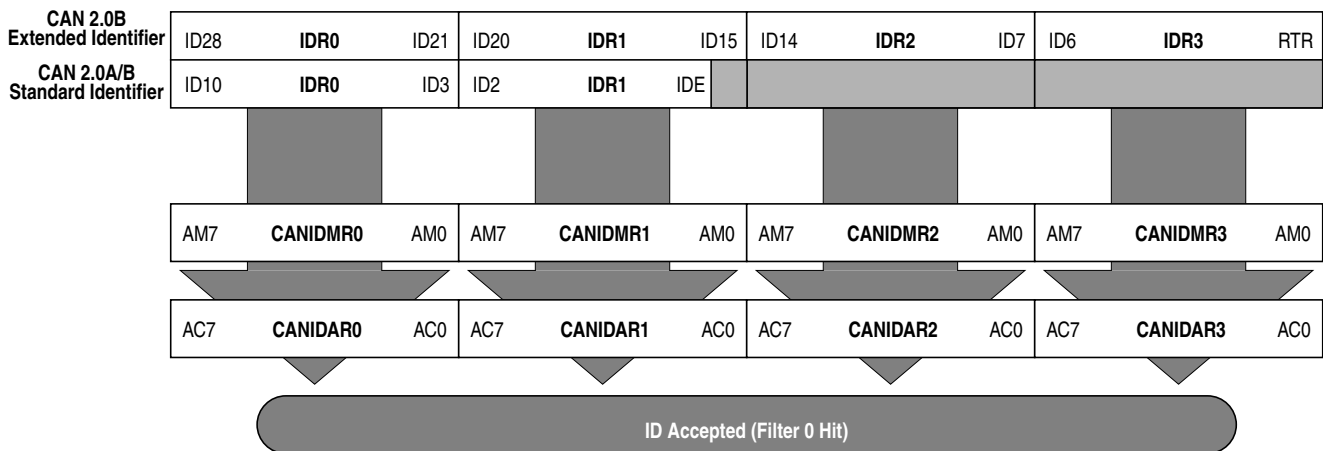

Figure 10-38. 32-bit Maskable Identifier Acceptance Filter
- The 11 bits of the standard identifier plus the RTR and IDE bits of the CAN 2.0A/B messages1. This mode implements two filters for a full length CAN 2.0B compliant extended identifier. Figure 10-38 shows how the first 32-bit filter bank (CANIDAR0–CANIDAR3, CANIDMR0–CANIDMR3) produces a filter 0 hit. Similarly, the second filter bank (CANIDAR4–CANIDAR7, CANIDMR4–CANIDMR7) produces a filter 1 hit.